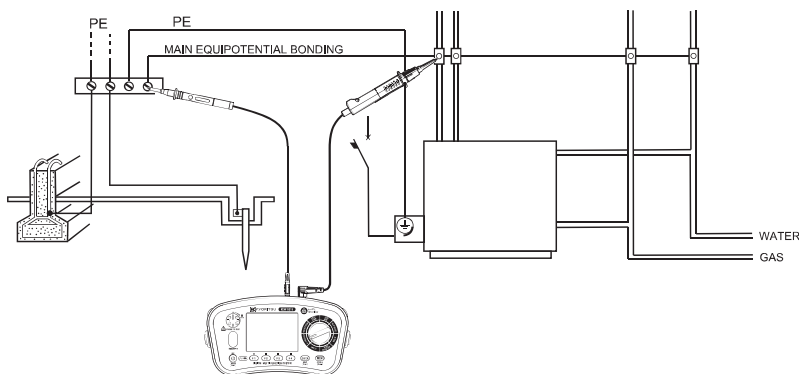

Fig.8-4 Example of continuity test for main equipotential bonding.
- (6) Connect the test leads to the circuit whose resistance is required (see Fig. 8-4 for a typical connection arrangement), having first made sure that **the circuit is not live**. Note that "Live Circuit" warning will be displayed on the LCD if the circuit is live - but check first anyway!